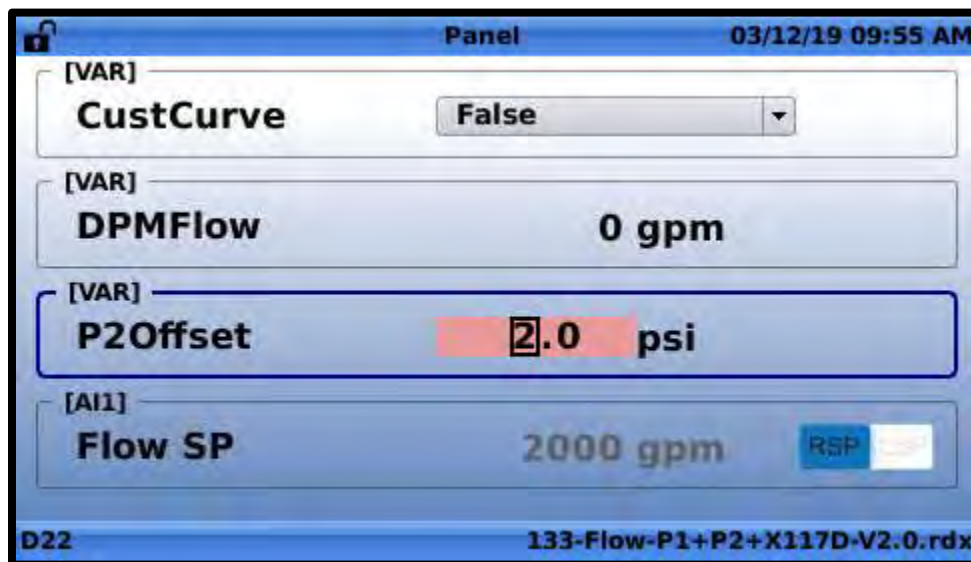

Figure 8.2
2. Highlight the interactive variable to be changed and press “OK”. Enter the desired value as shown in **FIGURE 8.2**.